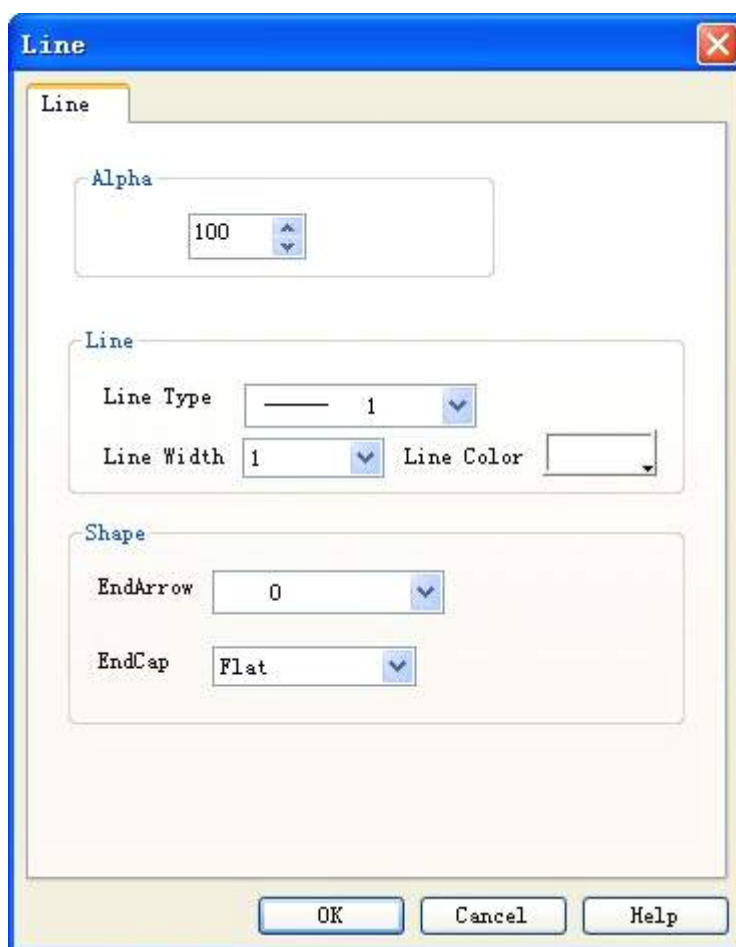

Figure 4-27: Line property dialog
- After completing the above steps, the line has default settings in transparency, line type, line width, line color, end arrow, and end shape. You can modify these settings basing on actual needs. To do this, move the mouse onto the line and double click, or click Properties button  in the tool bar after choosing the line. At this moment, a property dialog as shown in Figure 4-27 will appear.